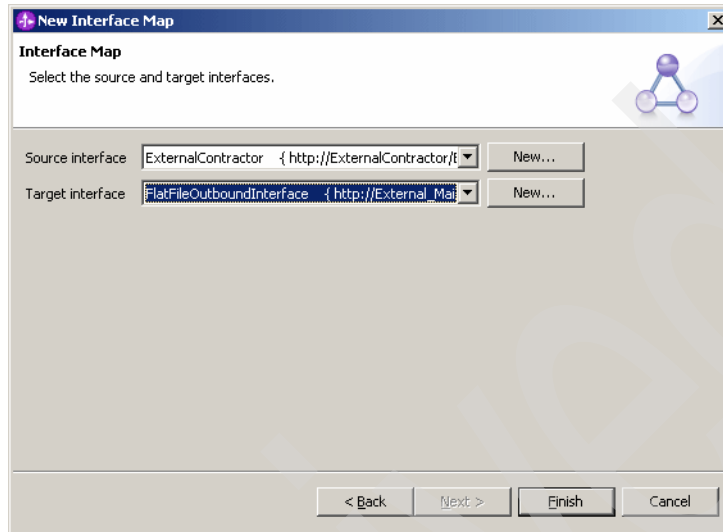

Figure 2-16 Select source and target interfaces
3. Select a source interface (**ExternalContractor**) and target interface (**FlatFileOutboundInterface**) for mapping (Figure 2-16).